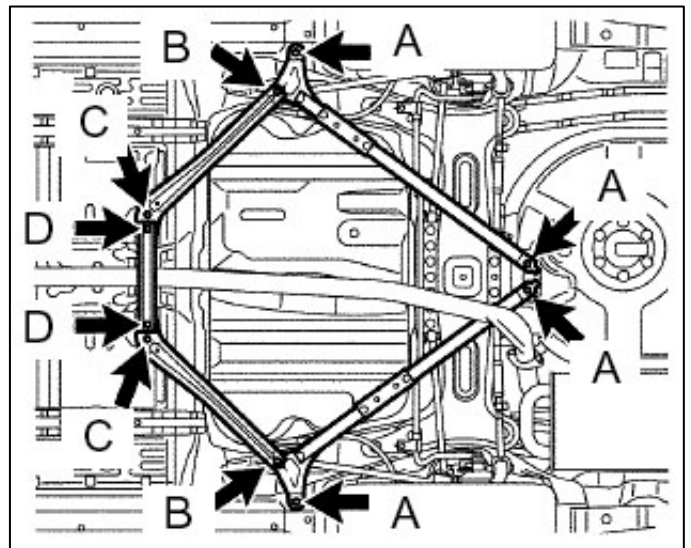

Figure 8
7. **Convertible only:** Install the center floor panel reinforcement sub-assembly LH and RH with the 4 bolts (Figure 8 and refer to Figure 3). Torque Bolt A to 41 ft-lb.
8. **Convertible only:** Install the member brace rear lower LH and RH with the 4 bolts (Figure 8 and refer to Figure 3). Torque Bolt B to 41 ft-lb and Bolt C to 38 ft-lb.
9. **Convertible only:** Install the floor panel brace rear with the 2 bolts (Figure 8 and refer to Figure 3). Torque Bolt D to 38 ft-lb.